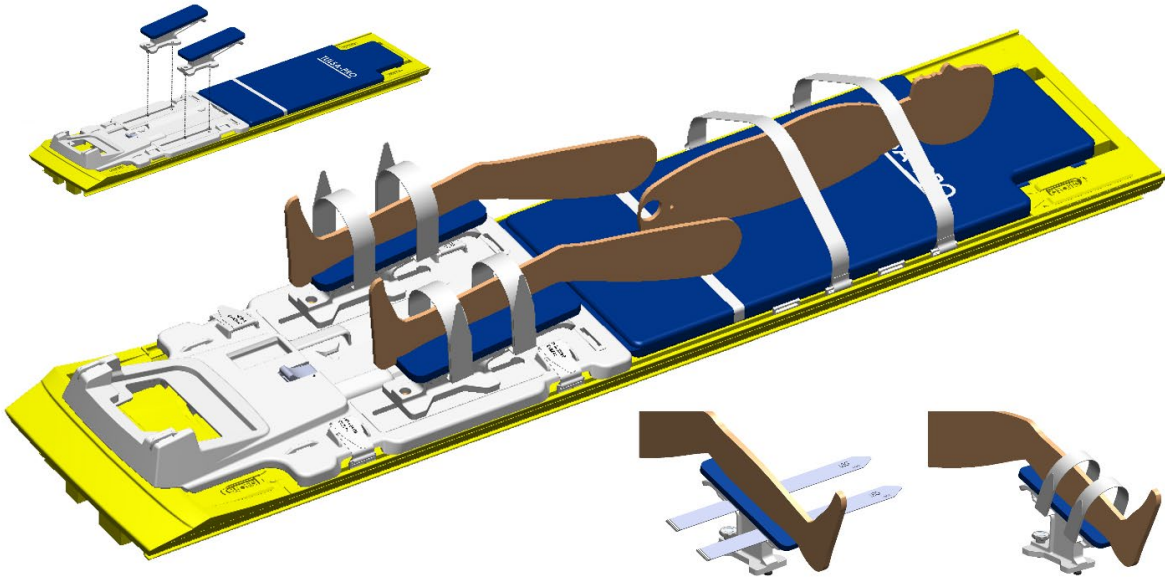

Figure 18. Initial patient positioning and attachment of leg supports.
2. Position the patient on the MRI bed in a head-first supine position so that their sagittal midline is centered from left to right on the MRI table, and their prostate is at the white line of the patient pad (Figure 18).